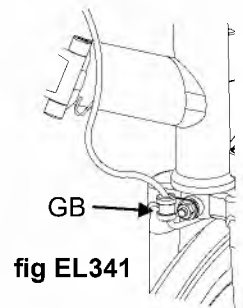

fig EL341
The E version requires a guide bracket (GB) to be fitted to the brake spindle to hold the loom off the tyre (fig EL341). It is not possible to move the loom through the guide bracket so the wiring loom earth eyelet connector must first be aligned with the fixing holes in the lamp bracket and the loom passed through the guide bracket before securing the nut on the brake spindle. For rear loom fitting see section 4.
Pass through the gap between the underside of the fork crown and the mudguard on the left hand side of the bike (fig EL319 and EL321 Section 3). Pull all the available loom completely through. For E Versions see note alongside fig EL341 section 2.